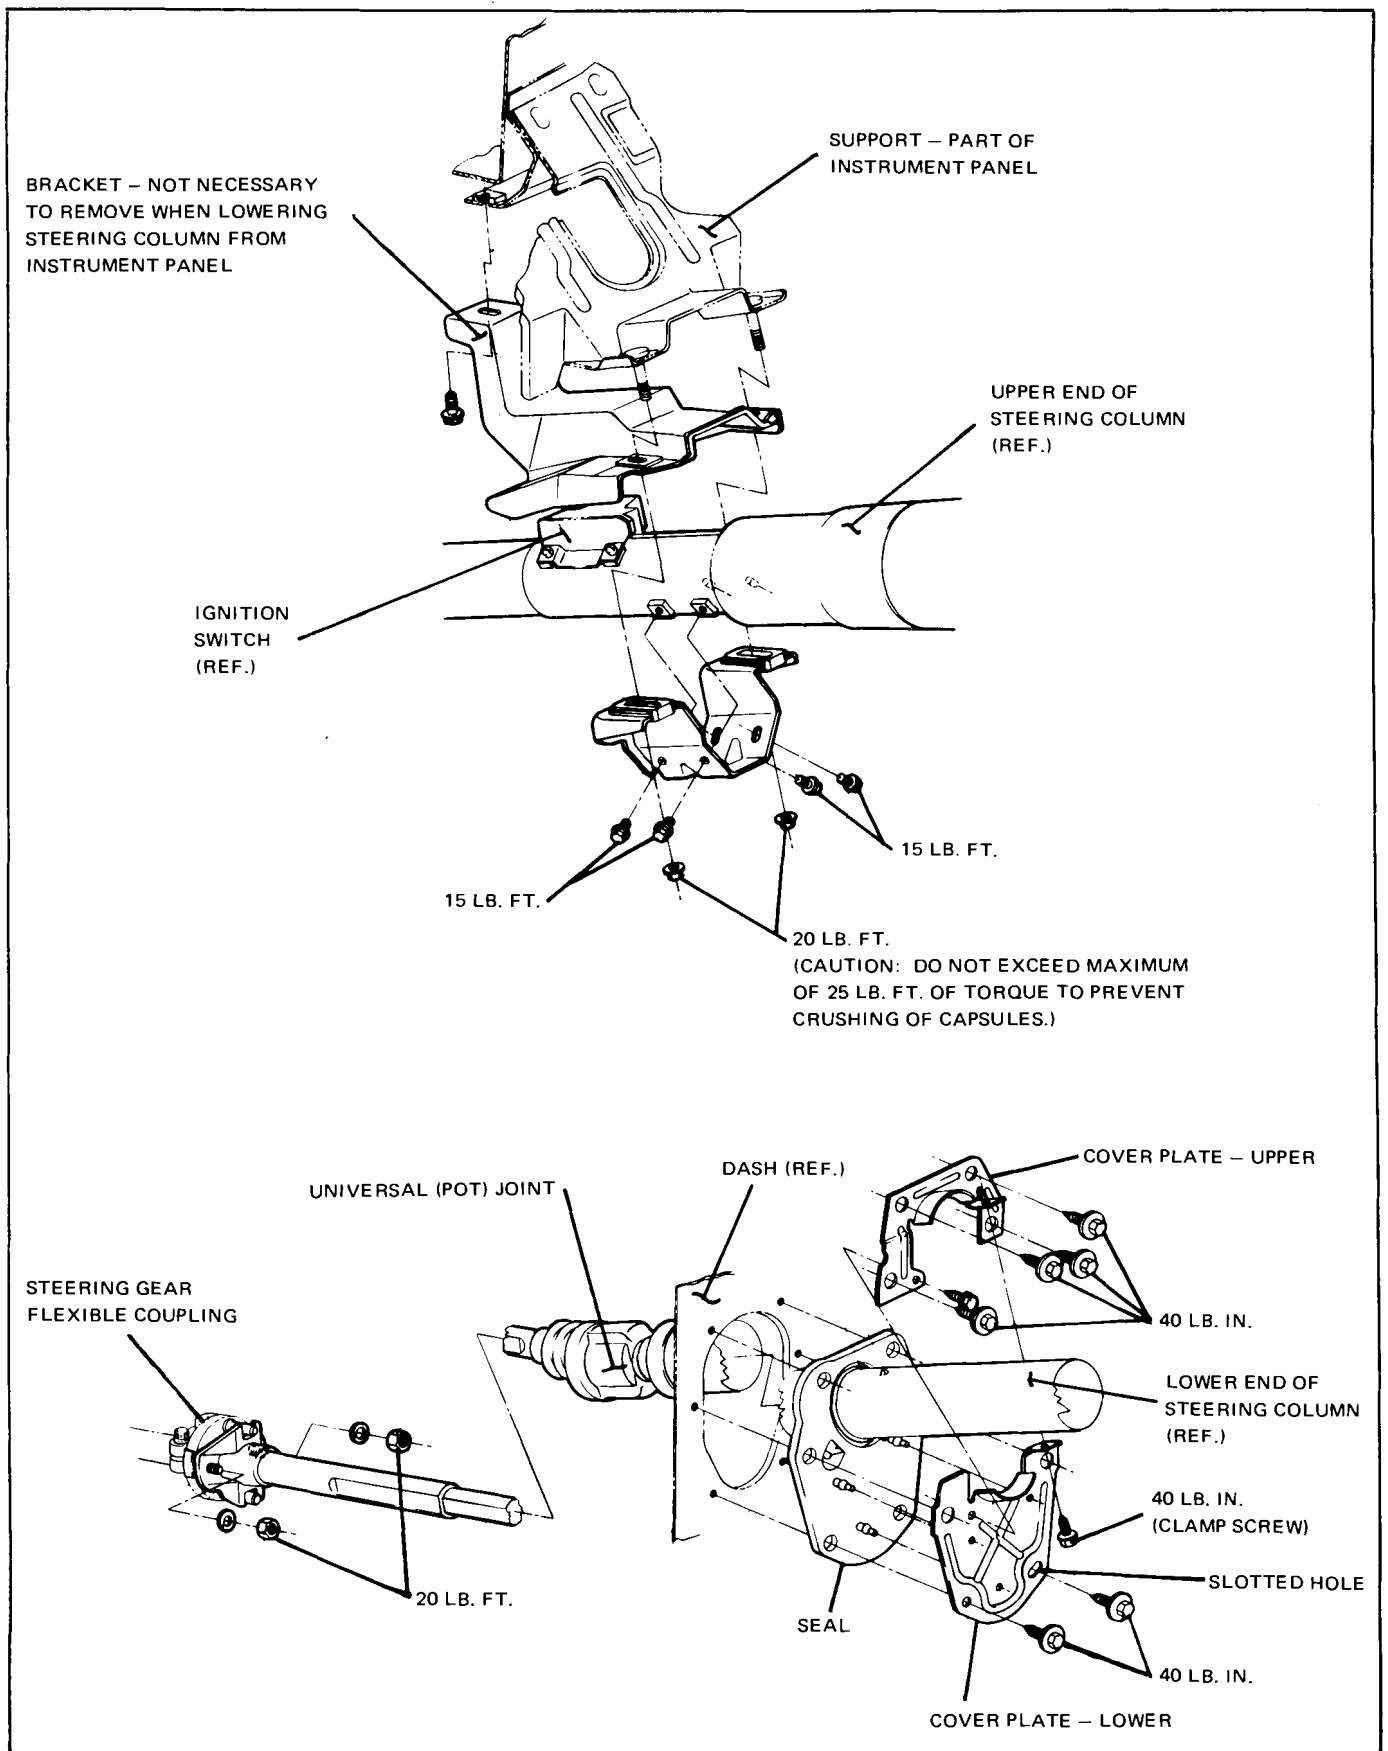

Fig. 9-32 Installation of Steering Column (B Series)
1. Position steering column in car and attach steering shaft flange to steering gear flexible coupling and tighten coupling nuts to 20 lb. ft. torque (Fig. 9-32).